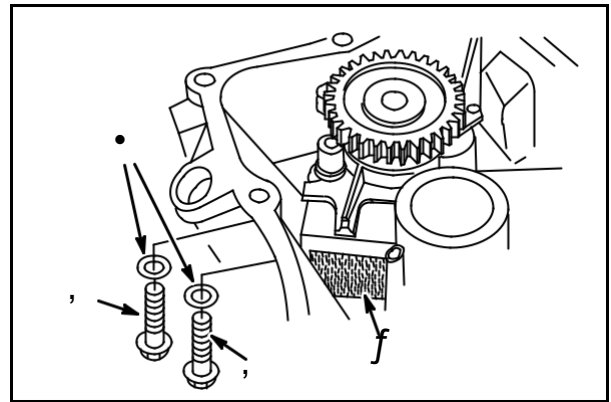

Fig. 7
Place new O-rings (1) on the screws (2). Install to sump, **Fig. 7**.